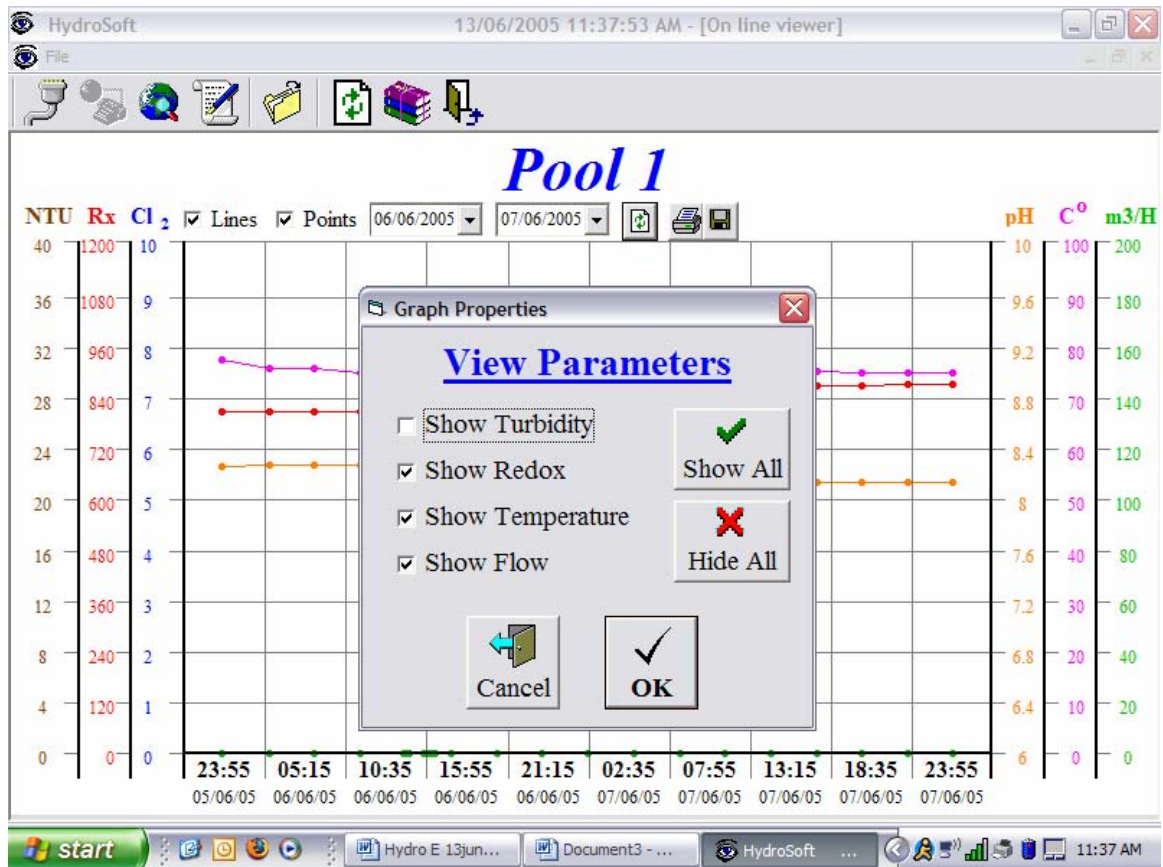

Figure 14: Selecting the General Graph Properties
4. Right click and select graph properties to choose which parameter to show on the graph (figure 14)